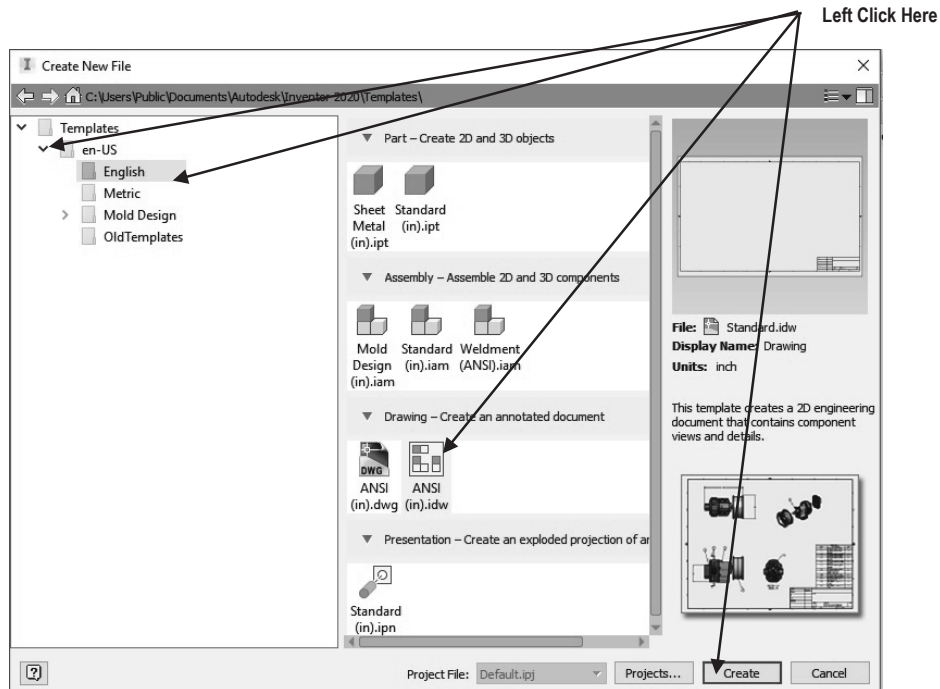

Figure 10
13. The Create New File dialog box is shown below. Left click on the drop-down arrow next to en-US. Left click on the **English** folder. Left click on the **ANSI (in).idw**. Left click on **Create** as shown in Figure 10.